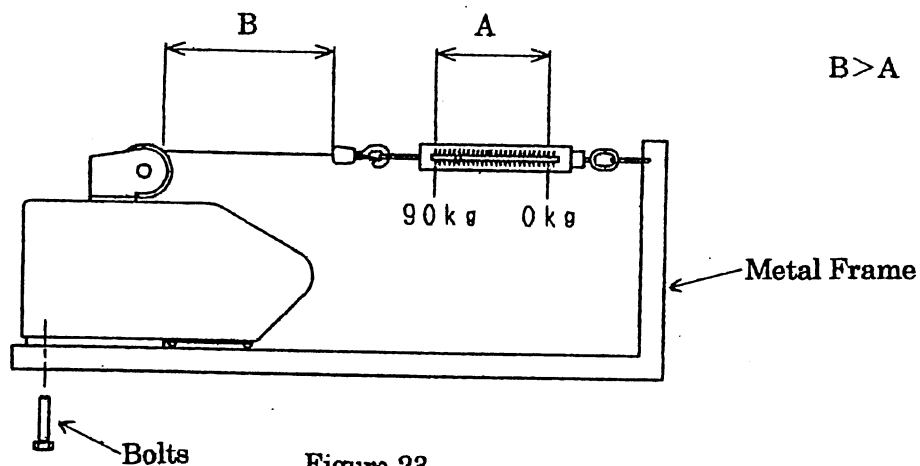

Figure 23
(2) Preparations
- 2° Connect a spring balance head to the metal frame, and connect the spring balance hook to the wire rope. (See Fig.23)